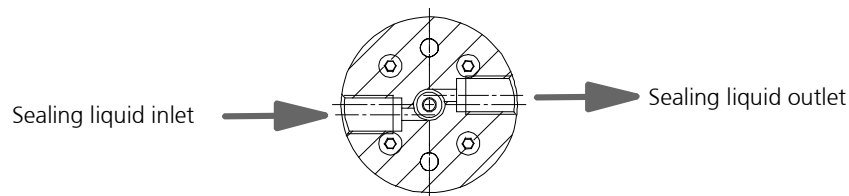

figure 28
4. Remove the lower screw plug from the fluidic seal module of the m zr® pump (see figure 28).
The fluidic seal set is mounted at the bottom inlet (see figure 28).